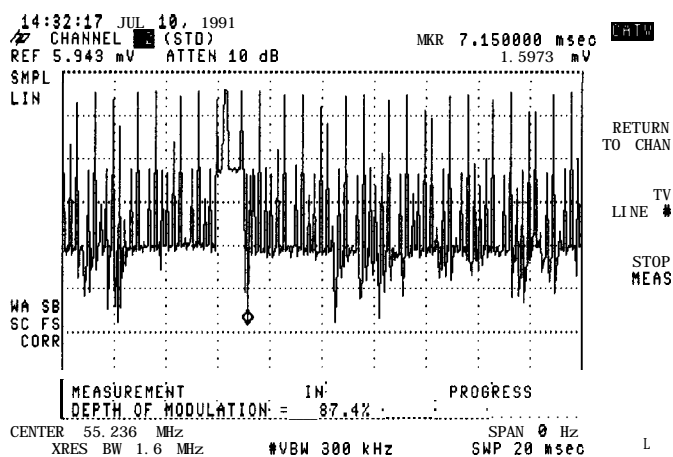

Figure 2-12.
2. The result is displayed at the bottom of the screen as shown in Figure 2-12. This result is updated every 10 spectrum analyzer sweeps (approximately every 3 seconds) and continues until you stop the test.